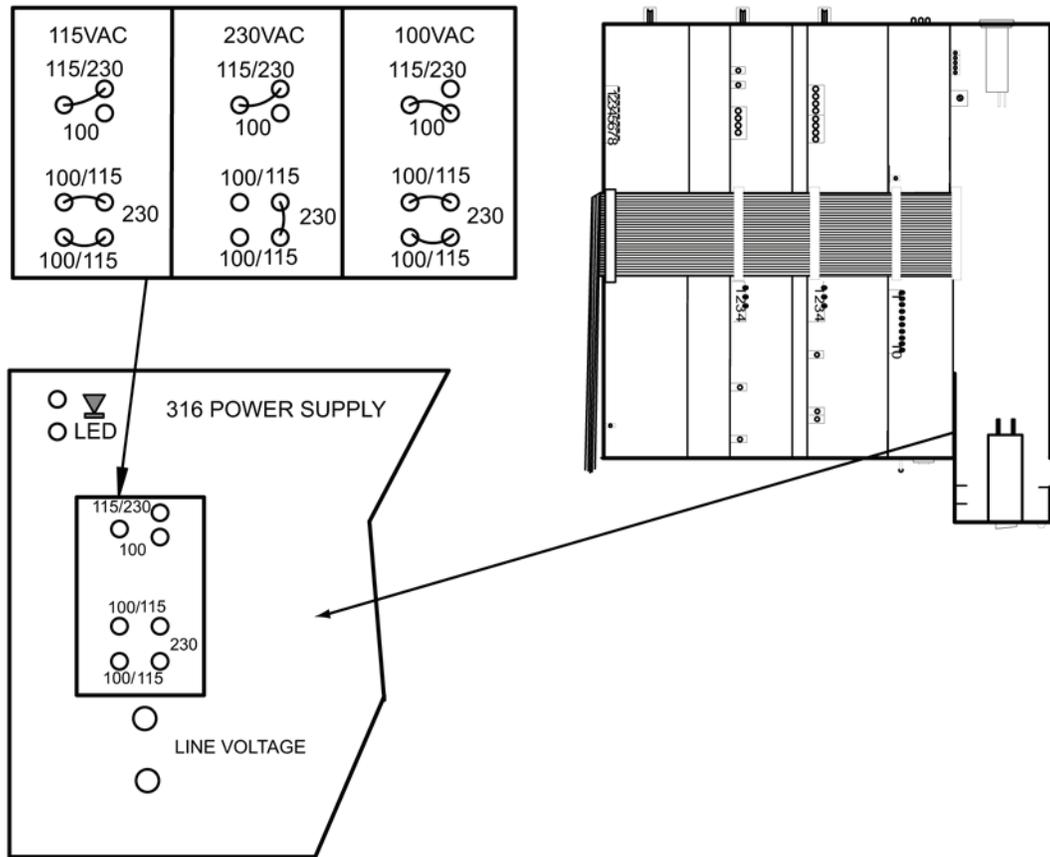

Figure 1-1 Line Voltage Select Jumpers, Power Supply PC Board
Line voltages of 90-110 or 105-125 or 220-240 volts are user selectable via jumpers on the power supply PC board within the controller. The factory preset line voltage and fuse rating are marked on the rear panel. Compare your unit to Figure 1-1 to determine if it is configured for your requirements. **Do not apply power until the correct configuration is achieved.**
Unit won't power-up, no response to power switch	Power fuse (17) blown Wrong line voltage selection, see Figure 1-1
Power fuse (17) blows repeatedly	Wrong fuse rating Wrong line voltage selection, see Figure 1-1